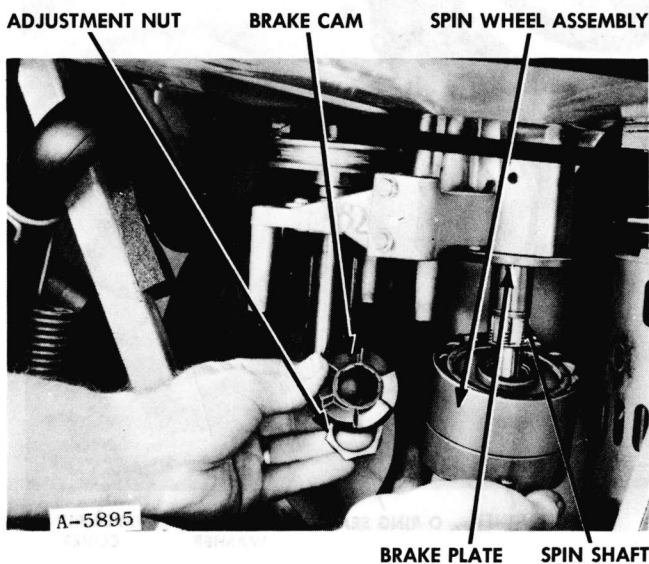

Figure 119
3. Push upward on the spin wheel and clutch assembly and remove nut that mounts the assembly to the spin shaft, Figure 119.
1. Hold the spin wheel and brake assembly, Fig. 119 and slip the entire assembly onto the spin shaft. Hold the spin roller away from the spin wheel and slide the spin wheel up the spin shaft until the brake lining contacts the brake plate.
3. Install the spin roll stop on the shaft, Fig. 119 by mating the teeth on the stop with the teeth on the brake cam.